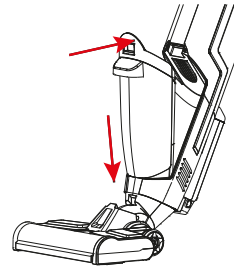

Fig. 4
5. Align the bottom of dirty water tank with the inlet, then push it inwards until you hear a click. **(Fig. 4)**
6. Insert the roller brush into the base of the brush, rotate the roller brush so that the brush can align with the brush, meanwhile, make sure that the lock can align with the lock hole, then lock the roller brush. **(Fig. 4, 5, 6)**